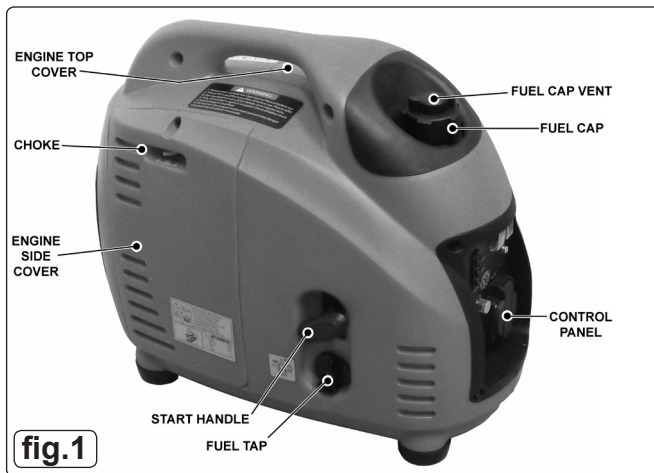

fig.1
3.2.1 Remove the retaining screw and lift off the engine side cover (fig.1).
4.1.3 Remove the fuel cap (fig.1), check the level of the fuel and refill with the recommended fuel if necessary. Use unleaded petrol (95RON) to minimise combustion chamber deposits.
4.2.2 Open the fuel cap vent (fig.1).
4.2.4 Turn the fuel tap to the 'ON' position (fig.1).
- 5.1.2 Remove the retaining screw and lift off the engine side cover (fig.1).
- 5.2.1 Remove the retaining screw and lift off the engine side cover (fig.1).
- 5.3.1 Remove retaining screw and lift off the engine top cover (fig.1).